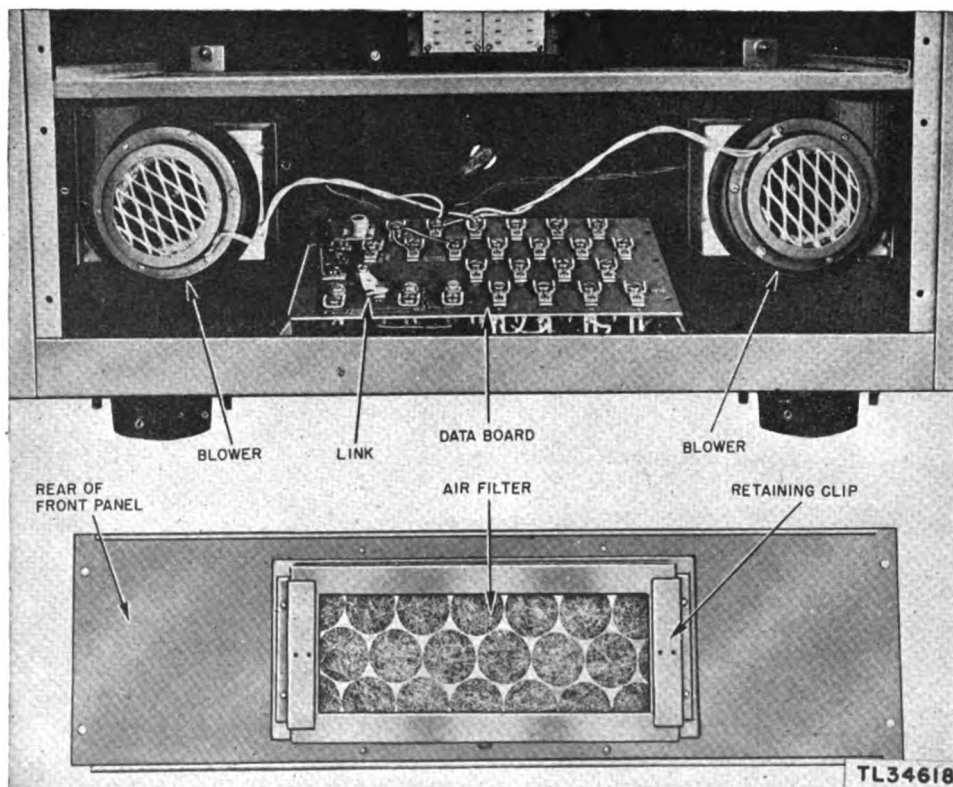

Figure 9. Blower motors and filter pad (bottom of Rack FM-80).
panel is shown in figure 9. The filters are constructed of spun glass impregnated with oil to improve the filtering action.
a. **INSPECT (I).** The filter must be inspected for dirt accumulation. Note whether the filter is mounted correctly on the panel. Improperly assembled filter elements or warped frames will allow unfiltered air to leak around the edges and thus permit dust to enter the cabinet.
b. **TIGHTEN (T).** The mounting brackets should be tightened, and the filter must be adjusted to fit properly.
c. **CLEAN (C).** To clean the air filter, proceed as follows:
(1) Remove the filter pad from the back of the bottom panel (fig. 9).
Four motors are used in Radio Equipments RC-182-A and RC-282-A. The two blower motors (fig. 9) require periodic lubrication. The lobe-switching